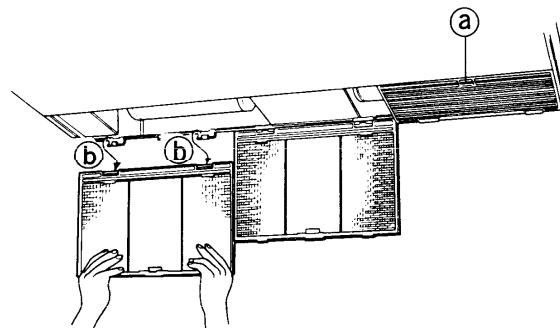

Fig. 2
- (1) The suction grille opens when the tab (a) of the suction grille is pulled.
- (2) Raise the suction grille lightly and shift it in the direction of the arrows (b) to remove it from the hooks. Fig.2